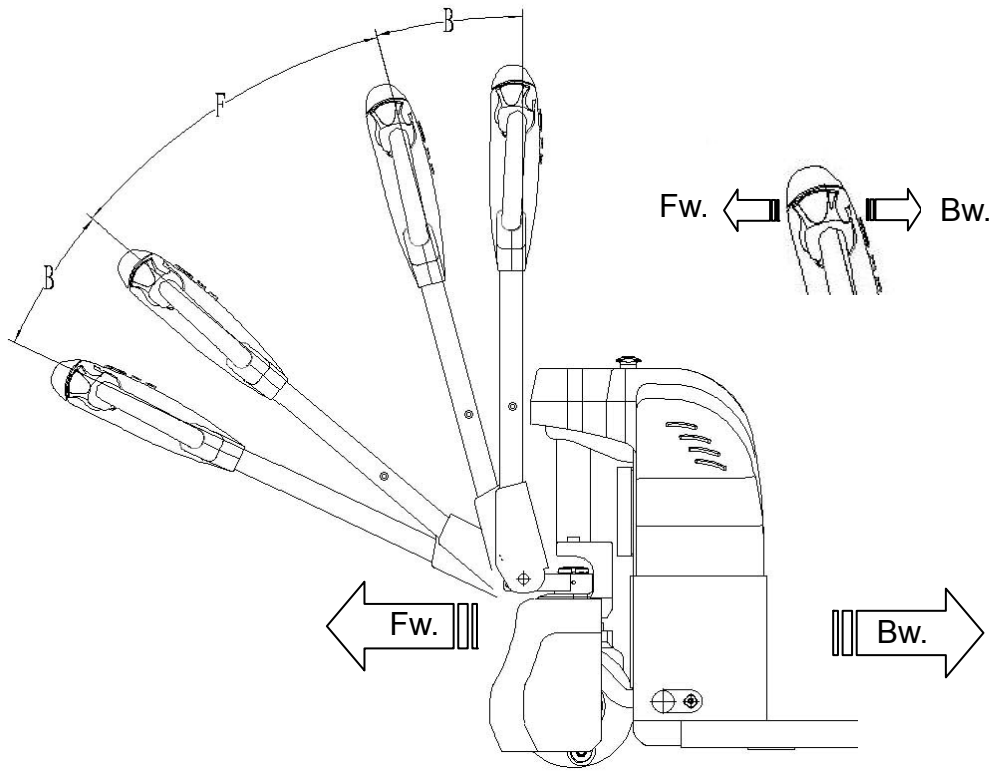

Fig. 13: Operating direction
After starting the truck by pulling the combined emergency switch (3), move the tiller to the operating zone ('F', fig.13).
Turn the accelerator button to the desired direction forward 'Fw.' or backwards Bw.'(fig. 13).